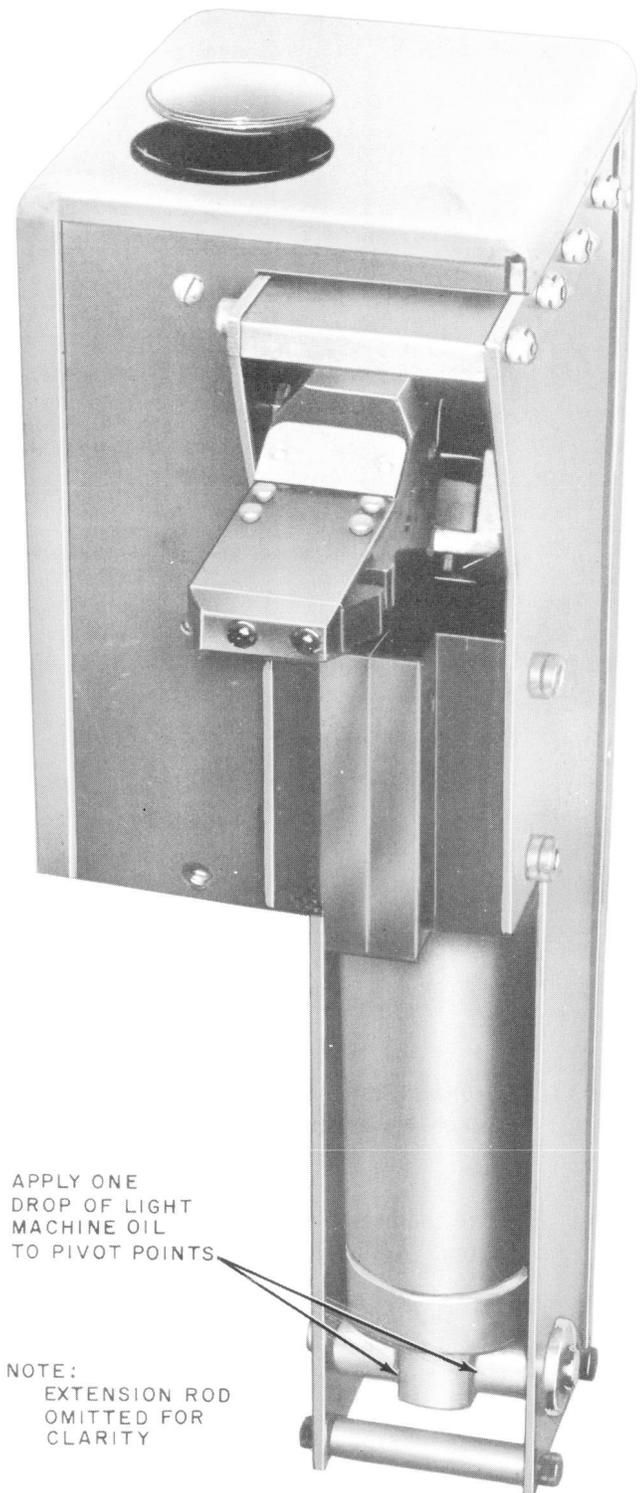

Fig. 4—Lubricating Points at Cylinder Base
- (a) Apply one drop of oil to the two pivot points at the base of the pneumatic cylinder (Fig. 4).